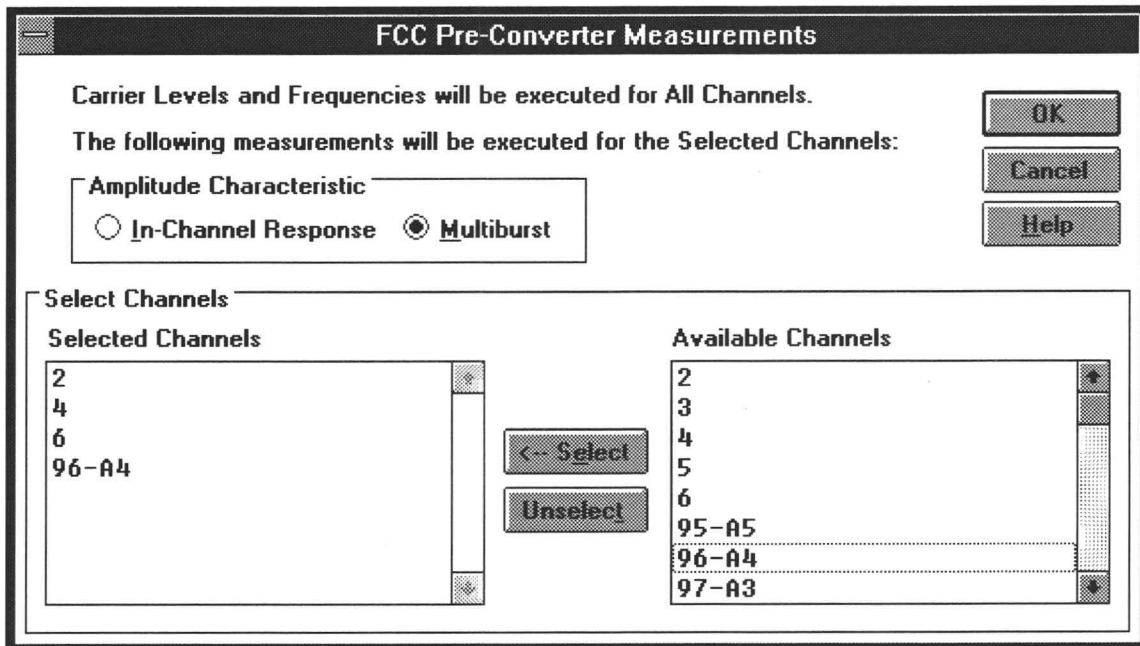

Figure 4-31. The FCC Pre-Converter Measurements dialog box for the Measurement Sequence Pre-Converter Auto Selection command button.
3. Choose the FCC Pre-Converter command button from the Auto Selection group. The Get Channels dialog box appears as shown in Figure 4-31.